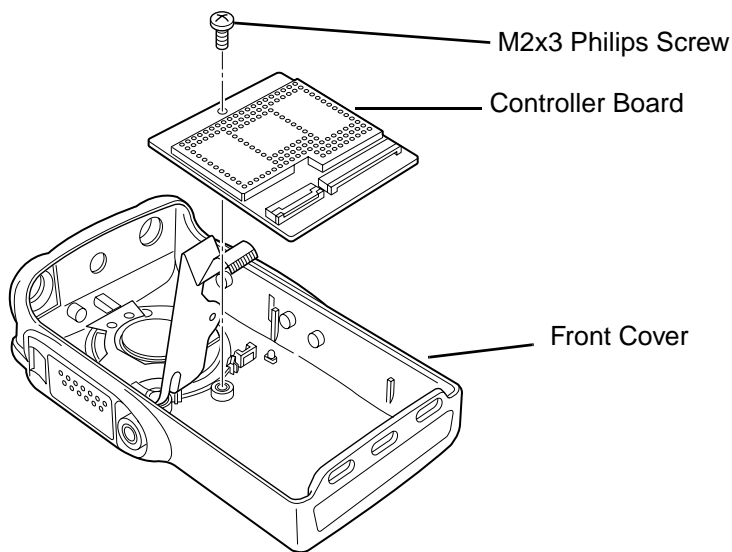

Figure 3-7 Removing the Controller Board from the Front Cover
2. Insert a flat bladed screwdriver in between the controller board and front cover. Pull up the screwdriver to disassemble the controller board from front cover. (See Figure 3-7.)